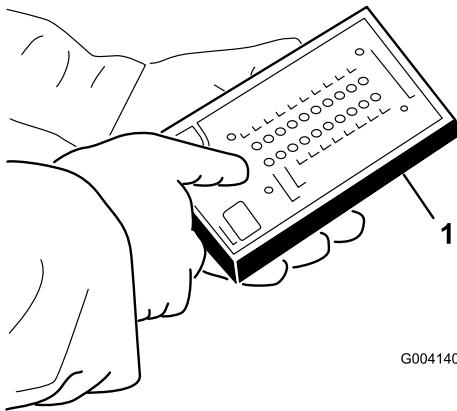

Figure 39
3. Connect the Diagnostic ACE display connector to the harness connector (Figure 39). Make sure correct overlay decal is positioned on Diagnostic ACE display.